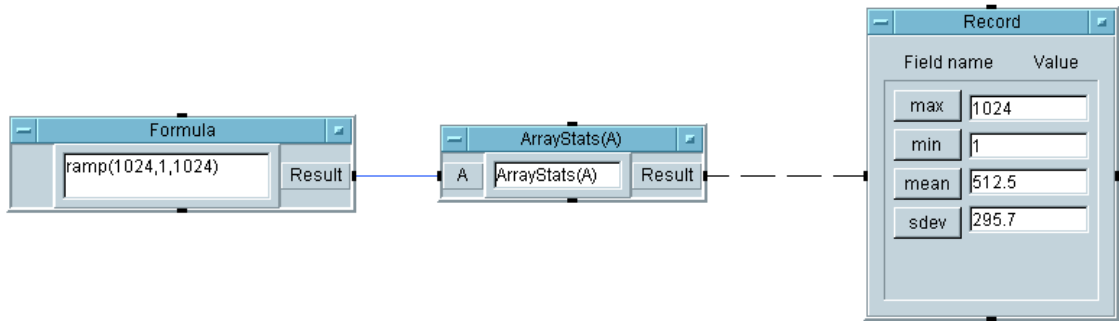

Figure 217 Generating a Call Object ArrayStats(A) from a UserFunction
- 5 Run the program. It should look like Figure 217.